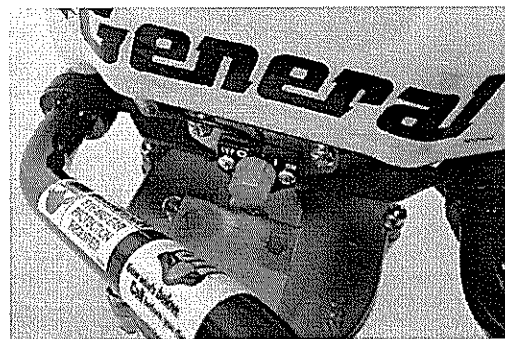

FIGURE 2
- Gripping operator handle on left side with left hand, use right hand to turn engine ON/OFF ignition switch to ON position. FIGURE 2